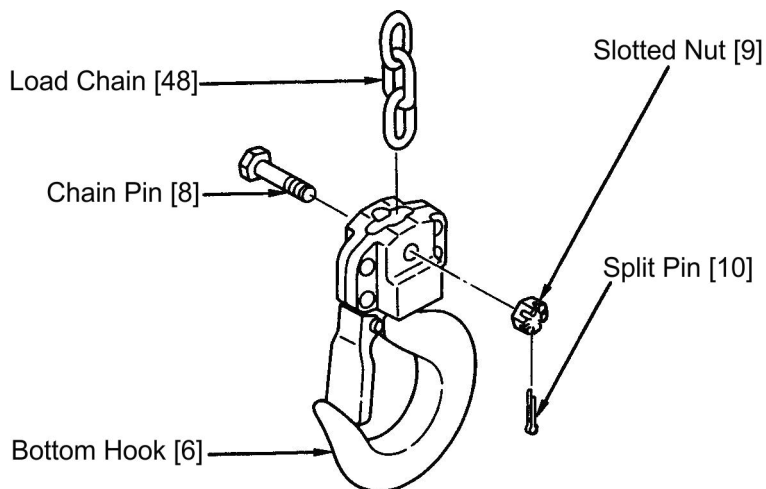

Figure 6-11 Bottom Hook Assembly
- 22) Insert the other end of the load chain [48] to the bottom hook [6] and fix them with the chain pin [8], slotted nut [9] and split pin [10]. See figure 6-11. For Bullard®, SmartLok™/Shur-loc®, or Inspection type hooks, refer to Table 6-3 for yoke nut torque specifications.